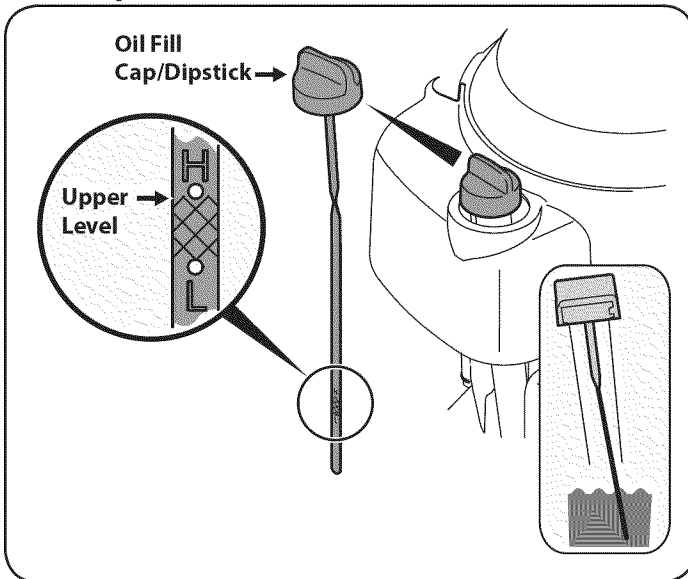

Figure 13
2. Insert the dipstick into the oil filler neck. Turn the dipstick 1/4 turn into the locked position to fully seat. See Fig. 13.
4. If the level is low, slowly add oil until the reading is at the upper level on the dipstick. See Fig. 13 inset.